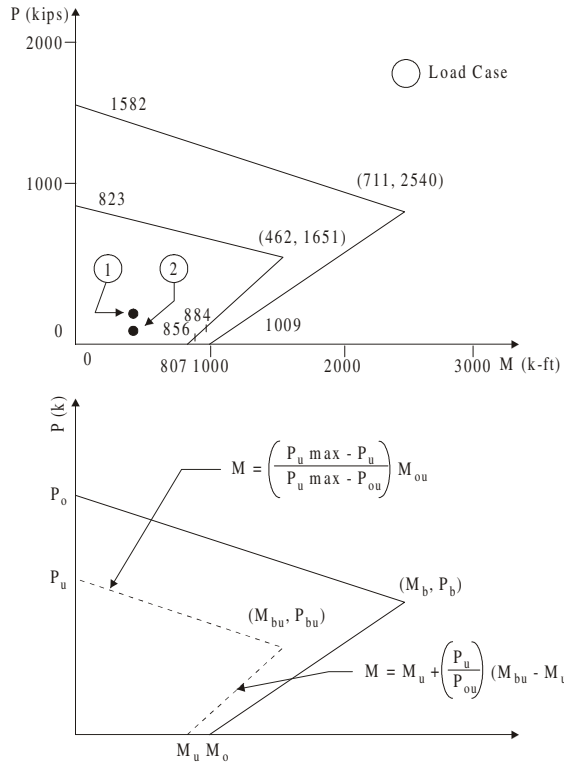

Figure 11-30. Interaction Diagram
**C. Load Cases (See Figure 11-30)**
From Figure 11-30:
From Figure 11-30:  $P_u = 27 \text{ kips} < P_{bu} = 462$